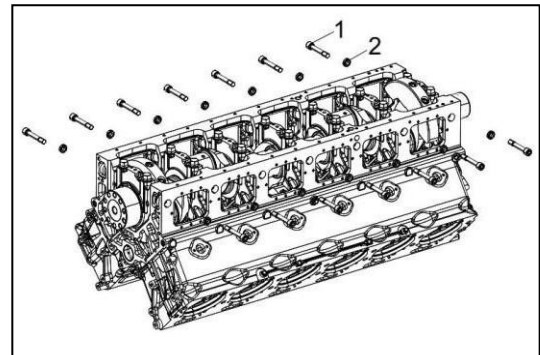
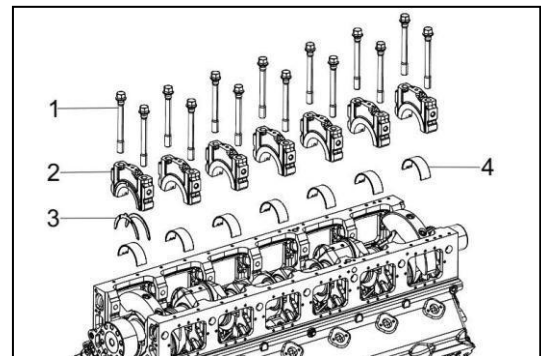

Figure 111
Figure 112
2. Loosen and remove the main bearing cap auxiliary bolts (Figure 111, 1) and washer (Figure 111, 1).
3. Loosen and remove the main bearing bolts (Figure 112, 1).
4. Remove the main bearing caps (Figure 112, 2). Be sure to note the markings on the main bearing caps, or mark them yourself, so they can be reinstalled in the same order as they were removed.
5. Remove the upper main bearings (Figure 111, 4) and thrust plates (Figure 112, 3).